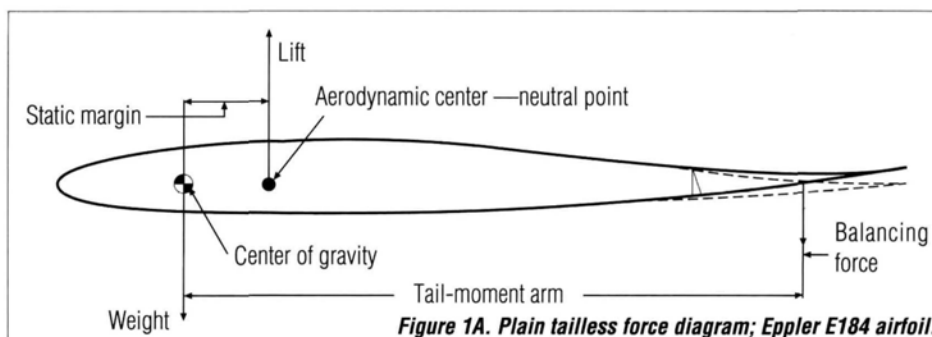

Figure 1A. Plain tailless force diagram; Eppler E184 airfoil.
On a tailless aircraft, the wing's aerodynamic center (AC) and the NP coincide. For longitudinal stability, the CG must be ahead of the AC/NP location. This results in a nose-down imbalance. For equilibrium, the wing must provide a balancing force as shown in Figures 1A, 1B and 1C.
For a tailless aircraft, the wing itself must provide this balancing force. On a straight wing (Figure 1A), the moment arm is short, so a larger balancing force is required to produce the moment needed. To increase the length of the moment arm, designers have resorted to using wide chords, forward and backward sweep and delta wings (an extreme example of sweepback).
- For plain swept-back and delta wings, the balancing force acts downward, reducing the wing's lift and requiring additional wing area to compensate (Figures 1A and 1B).